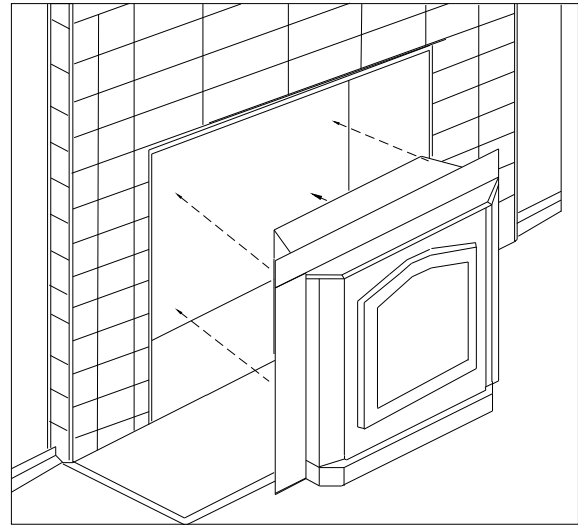

FIGURE 5
7. Slide the unit back into the fireplace. Check to be sure that the trim panels (and brass) are properly positioned and lie flat against the front of the fireplace. If one or more of the panels is out of position, slide the unit out and reset by loosening the mounting screws and repositioning in the slot. (See Figure 5)